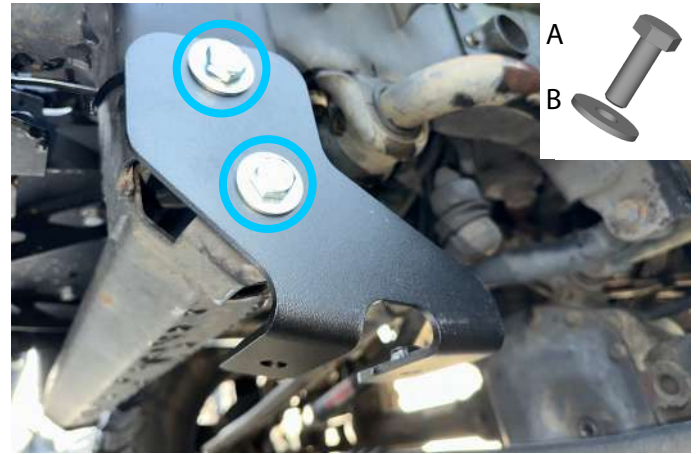

Fig. 2
2. Secure the left mounting bracket (item 2) using M10x30 bolts (item A) and M10 washers (item B), as shown in fig.2.